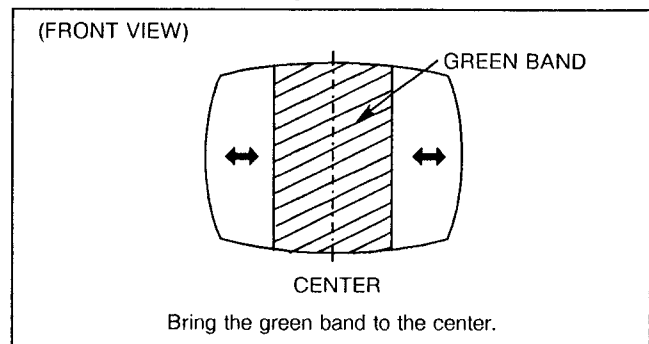

Fig.B-3
4. Turn the GREEN CUT-OFF VR to maximum and the RED and BLUE CUT-OFF VRs to minimum. Then adjust the SCREEN VR so that the green band can be seen best. (Fig. B-3)